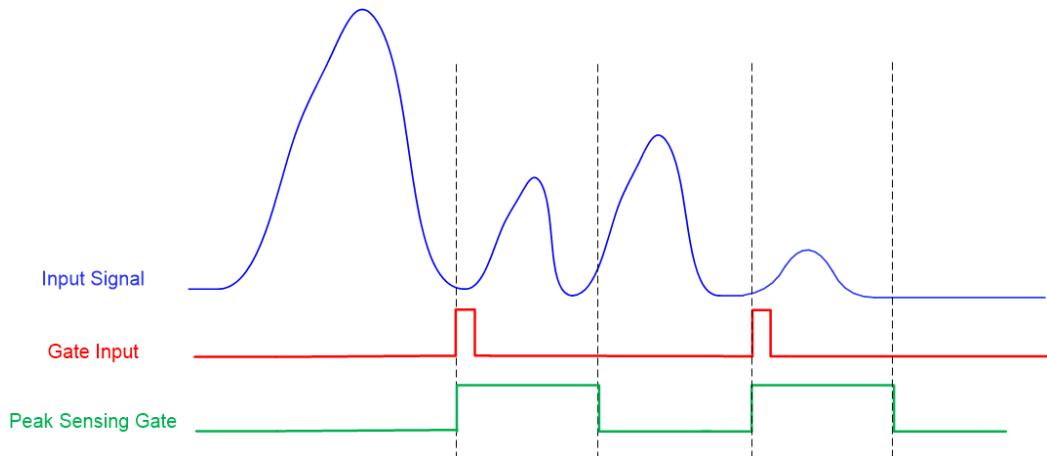

Figure 8.3: Edge mode acquisition: the gate width is defined via 0x8020 register [**RD1**]
- **edge mode** (edge sensitive): the gate starts with the leading edge of the GATE signal and lasts for a user programmable time, that can be set through register 0x8020 [RD1] (see **Figure 8.3**).